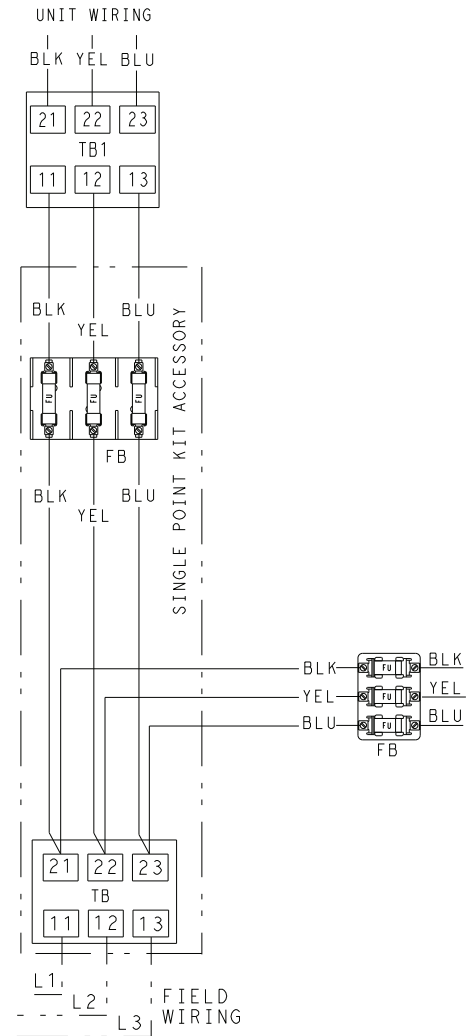

Fig. 55 — Wiring Diagram for Single Point Kit Accessory When Required
7. To be used with Standard SCCR (5ka) Units Only. Refer to Fig. 55 for wiring single point kit accessory when required. Using three 1/4-20 nuts, connect power wires to the load side of terminal block.